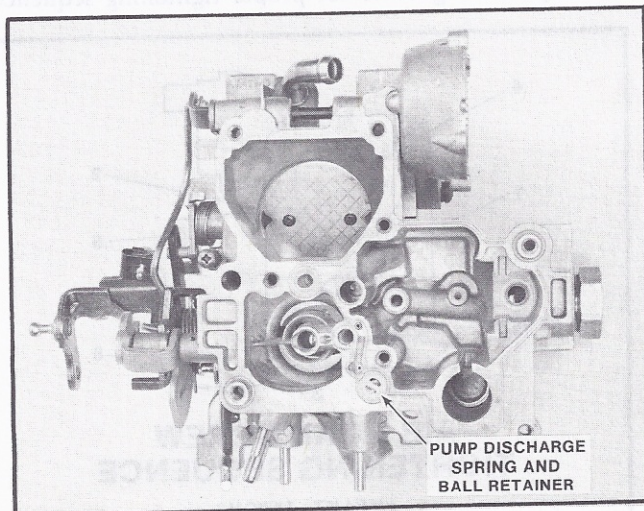

FIGURE 38 PUMP DISCHARGE RETAINER INSTALLED
8. Install pump discharge steel check ball and spring in passage next to float chamber (Figure 38). Insert end of new plastic retainer into end of spring and install retainer in float bowl, tapping lightly in place until top of retainer is flush with bowl casting surface.